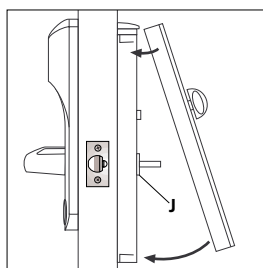

Figure 10
- 10) Install the inside housing cover assembly. The lever bushing (J) should line up with the hole in the cover (see Figure 10).